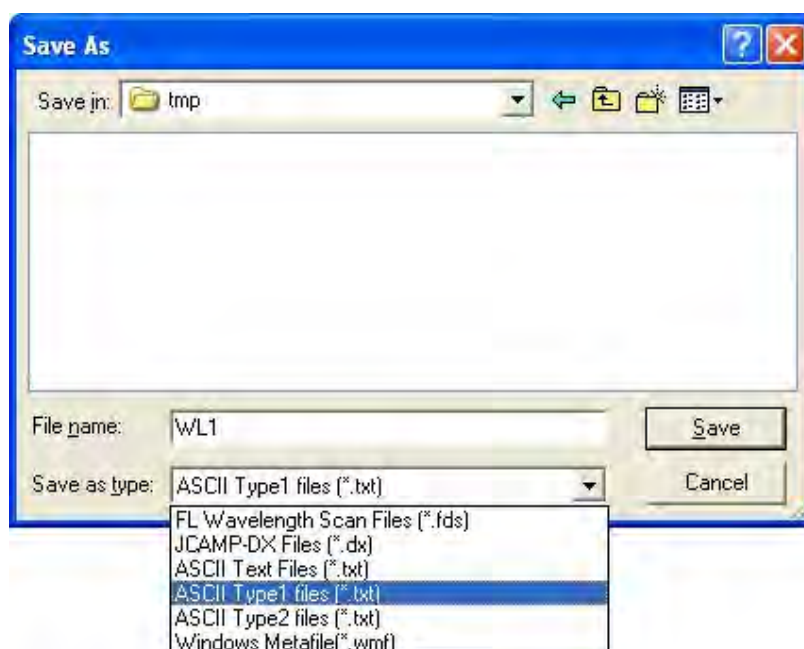

Fig. 7-45
- (1) Load a data file for text conversion and open the data processing window. (Refer to 7.1.)
- (2) Click the Save As command in the File menu.
- (3) A window as in Fig. 7-45 will open.